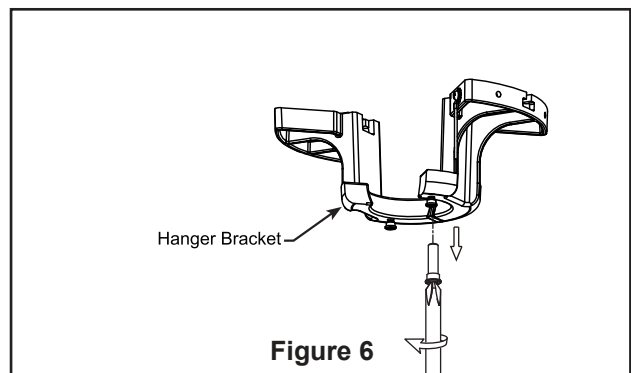

Figure 6
- Remove one of the two shoulder screws in the hanger bracket and retain the screw for later. Loosen the second shoulder screw without fully removing it. (Figure 6)